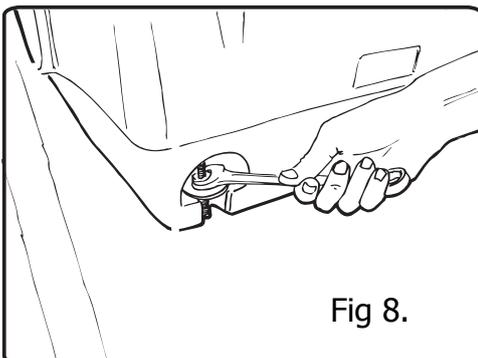

Fig 8.
8. Fully tighten all bolts using the supplied nuts until the bin is securely fixed. Fig 8 and 9.